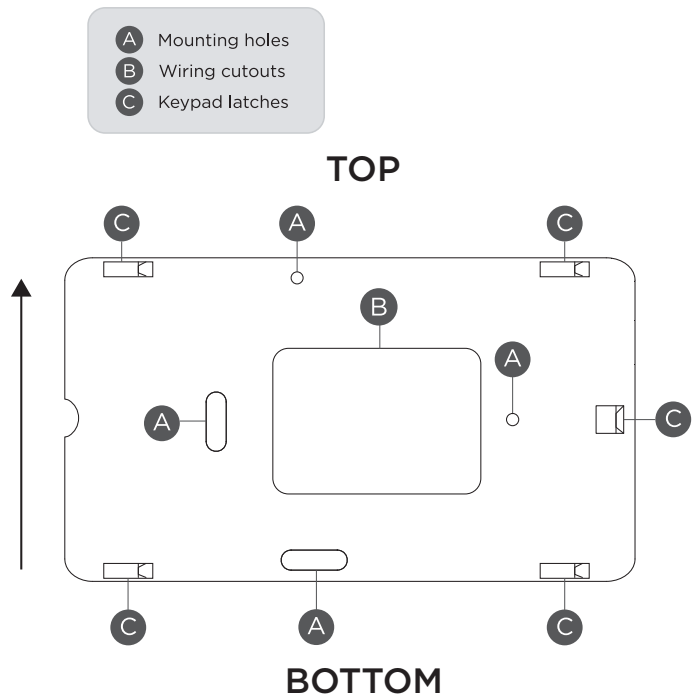

Figure 5: Mounting Hole Locations
- 3. Route the keypad wires through the cutouts in the base. See Figure 5.